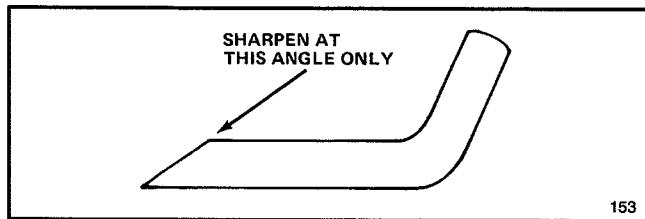

Figure 25
6. **SHARPENING BLADE**—Using a file, sharpen top side of blade and maintain original cutting angle (Fig. 25). The blade remains balanced if the same amount of material is removed from both cutting edges.